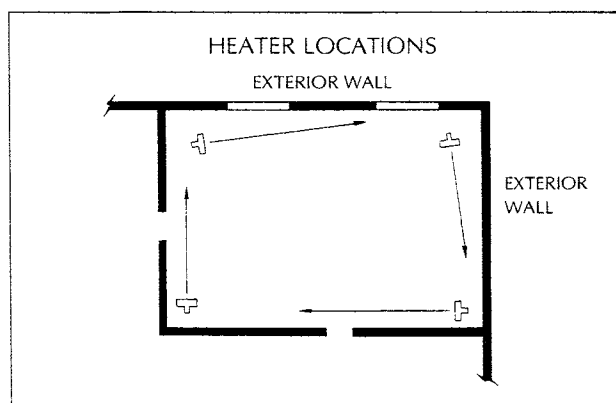

FIGURE 1
- d. the air discharge is directed across areas of heat loss, such as doors and windows (see Figure 1),
- e. the air discharge is directed along and at a slight angle towards exterior walls (see Figure 1),
- g. air discharge streams support each other and create a circular air flow. It is not required that the heater's air throw reaches the next heater (see Figure 1).